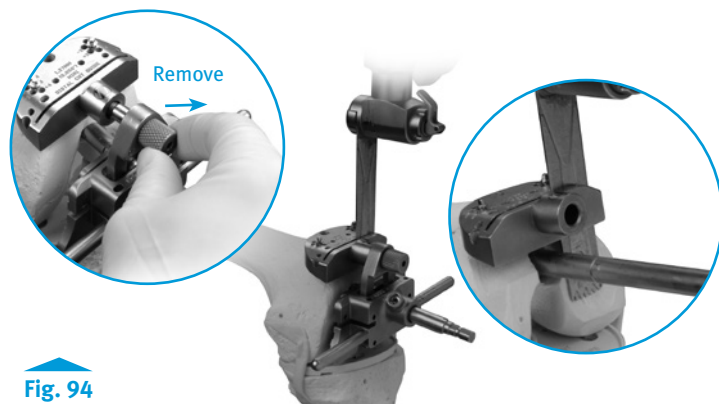

Fig. 94
- Use a 0.050 in. (1.27mm) oscillating saw blade to start the resection of the distal femur through the slot on the cutting guide (Fig. 94).
- Finish the resection (Fig. 94). If necessary, remove the reamer to complete the cut.